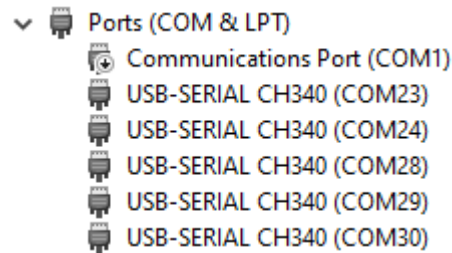

Figure 1.1 Ports (COM & LPT) section in Windows Device Manager
- Expand the *Ports (COM & LPT)* section   **Ports (COM & LPT)**, check the number of serial ports available. As shown in *Figure 1.1*, when all five modules are plugged into the computer, the device manager should show at least 5 serial ports. If any modules have not appeared as devices, unplug that module and replug it.